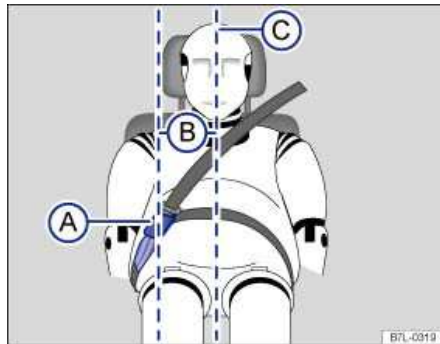

Fig. 83 Positioning of the safety belt extender.
Key to fig. 83:
- Never use a safety belt extender if the distance (B) between the front edge of the safety belt extender buckle (A) and the centerline of the person using the safety belt extender ⇒ fig. 83 (C) is less than 6 inches (15 cm).